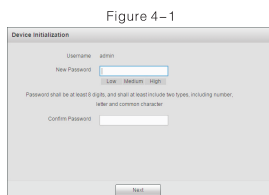

Figure 4-1
Step 1 Enter IP address of lift controller at the address bar of PC browser, and press [Enter] key. The system displays "Device Initialization" interface, as shown in Figure 4-1.